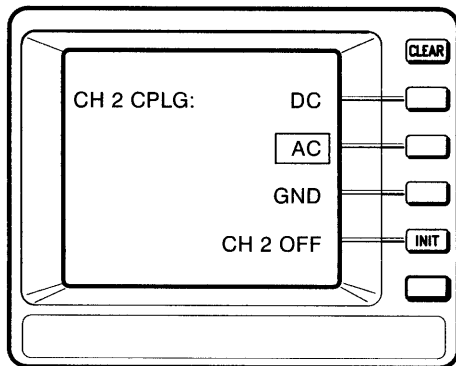

Figure 3-9: The Channel Menu
- Step 2:** Press the channel button again to invoke the channel menu. The screen appears as in Figure 3-9.